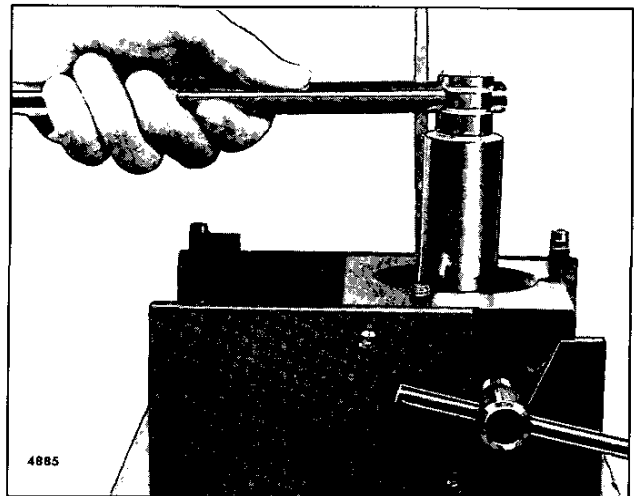

Fig. 12 - Removing Injector Nut Using Tool J 4983-01
4. Using socket J 4983-01, loosen the nut on the injector body (Fig. 12).